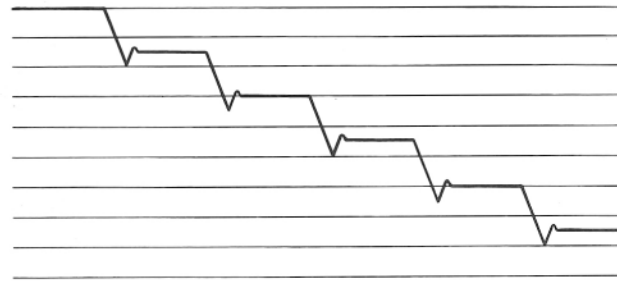

Figure 18. Bypass Closed Detent Inoperative
(3) Too much pencil pressure can cause a drag on the paper, and, therefore, an erroneous graph.
(4) The resulting graph should be similar to Figure 18.